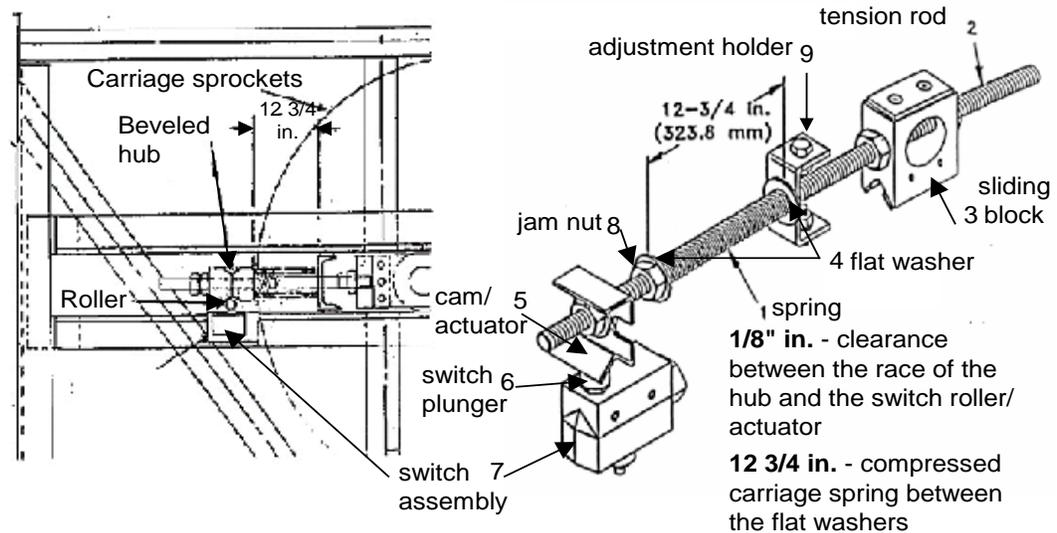

Figure 8-9c Montgomery and Montgomery KONE Carriage Spring
- Turn the jam nut (item 8 figure 8-9c) to set spring tension.